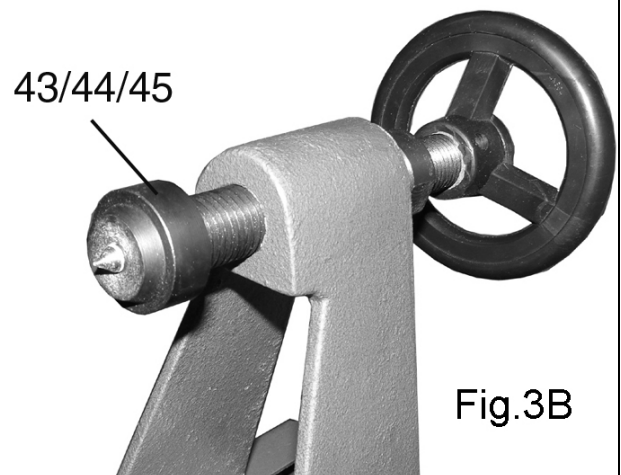

Fig.3B
3. Insert the tail-stock spindle assembly (43/44/45) into the tail-stock as shown in Fig 3b, the taper of the shaft gripping it in place.